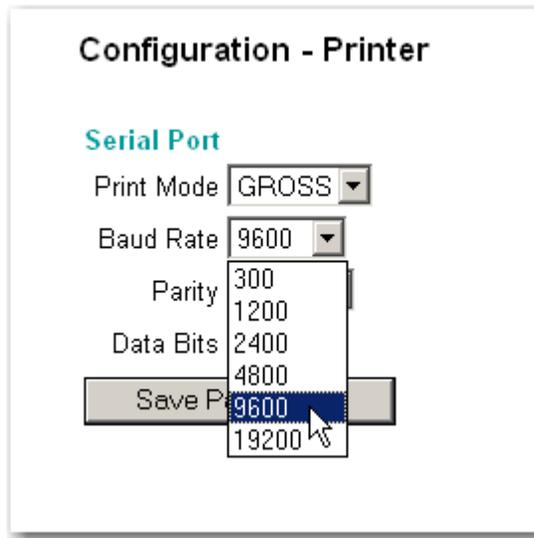

FIG. 204 PRINTER SETUP/SELECTING BAUD RATE
Step 4. Click on the Baud Rate pull down list. (See Fig. 204)